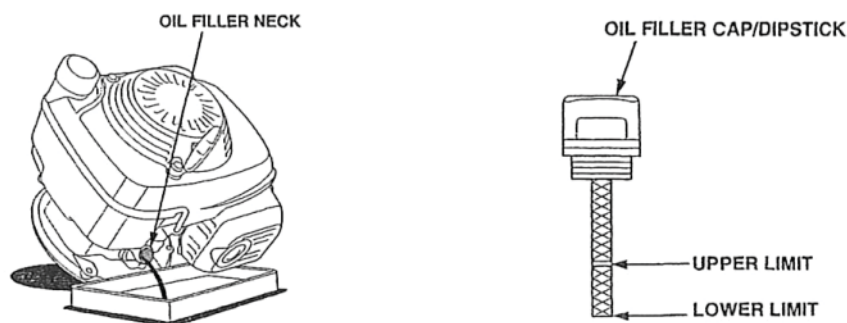

Figure 18
5. Remove the dipstick and drain the oil by tipping the engine toward the oil filler neck. (Fig 18)